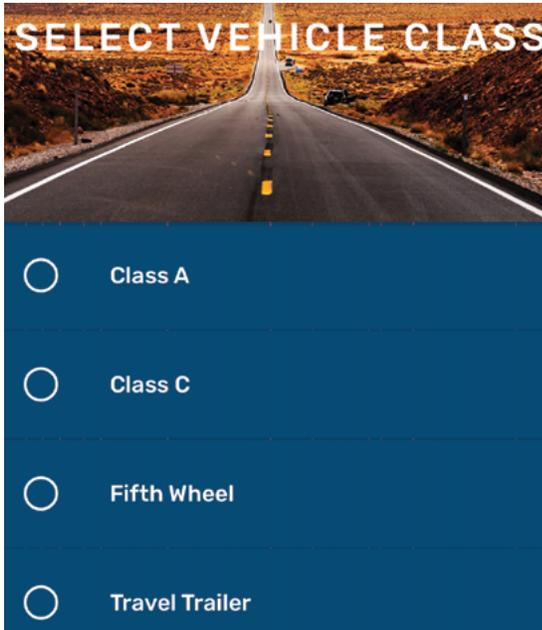

Fig.8
7. Select a vehicle class (Fig.8) and tap CONTINUE.